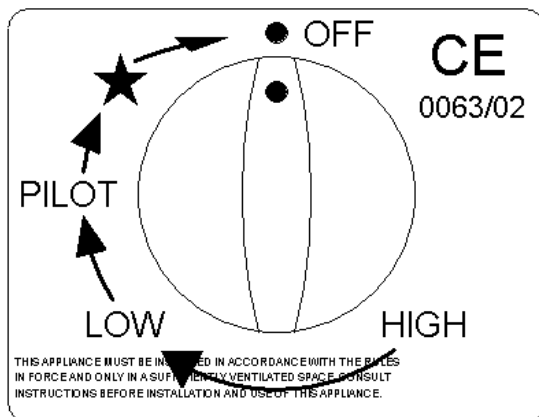

Fig 4f
*Step 4.* To extinguish the pilot, turn the control knob to the **OFF** position. (Fig 4f)